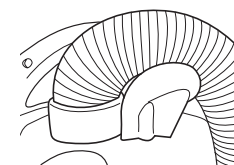

Fig. 4
- Place hose in hose cradle. (Fig. 4)